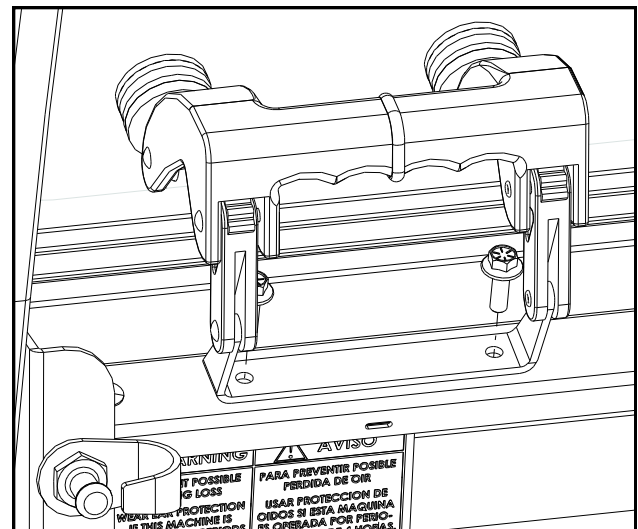

Fig. 12.2 (windshield latch installation - left)
**12.2** Fasten pop-out latch brackets to cowl with the pop-out latches open. See Fig. 12.2. Tighten latch bracket hardware.